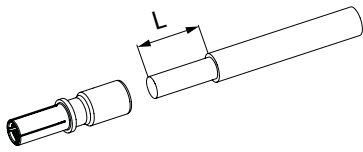

Fig. 28:
2. Strip cables for the main contacts - depending on the series and wire cross-section - to length L as indicated in the table below (Fig. 28).